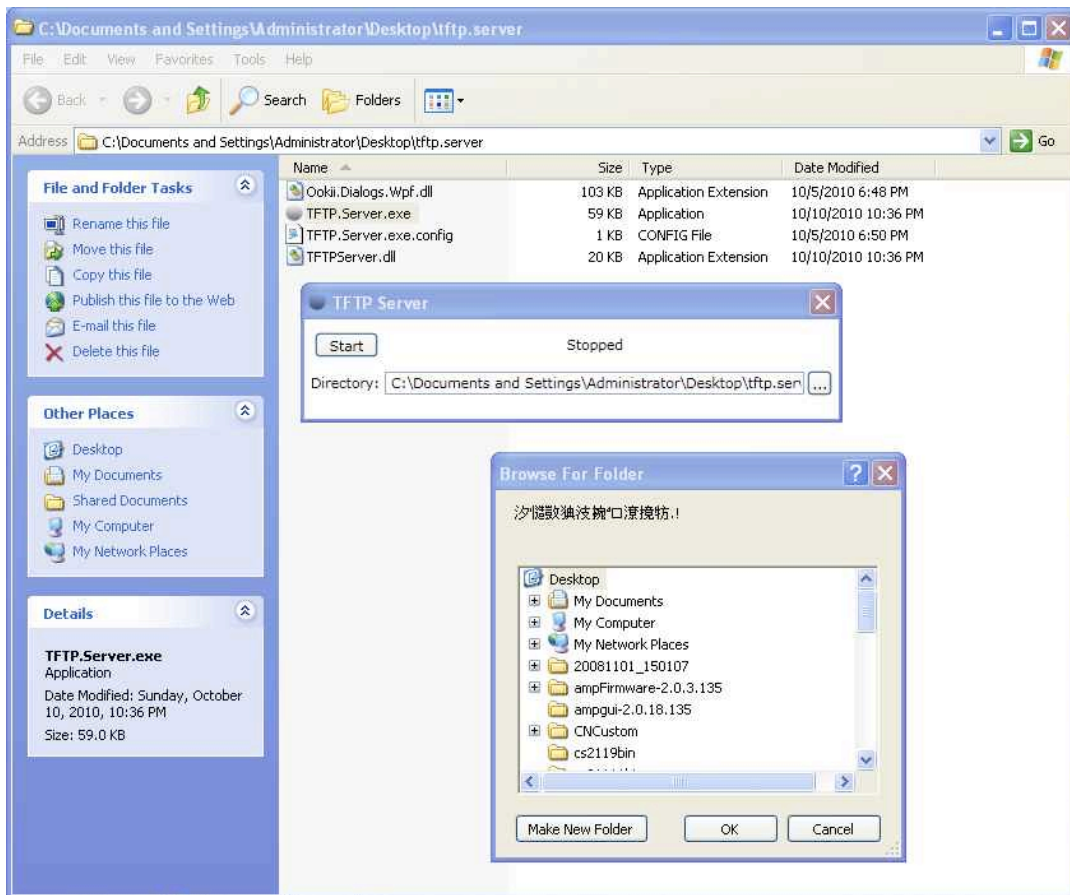

Figure 9-4: TFTP server utility
- Open the TFTP utility – see Figure 9-4 below and select the location of the “appload.bin” binary file. “appload.bin” is the Ethernet port host processor firmware.